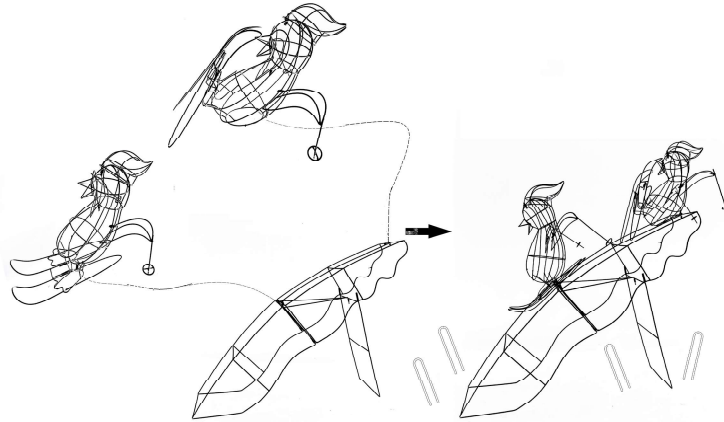

Fig.4
6. Insert the metal post of the whole assembled Penguin B into the corresponding cylinder in the middle of assembled slide. Insert the metal post of the whole assembled Penguin A into the corresponding cylinders of assembled slide. (see Fig.4)
7. **VERY IMPORTANT:** Secure the installing points with plastic ties(L) and secure the base to the soft ground by fully inserting Ground stakes (M) into the ground. (see Fig.4)